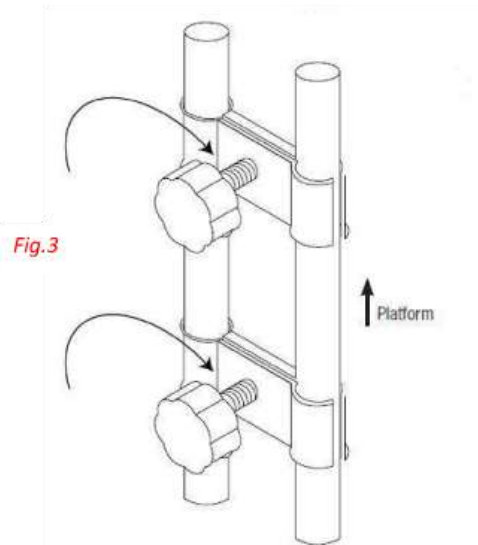

Fig. 3
- 2) If necessary, loosen clamp by turning knob counter-clockwise. Insert clamp between risers and rotate entire clamp in either direction until aligned properly. (*Fig. 3*)